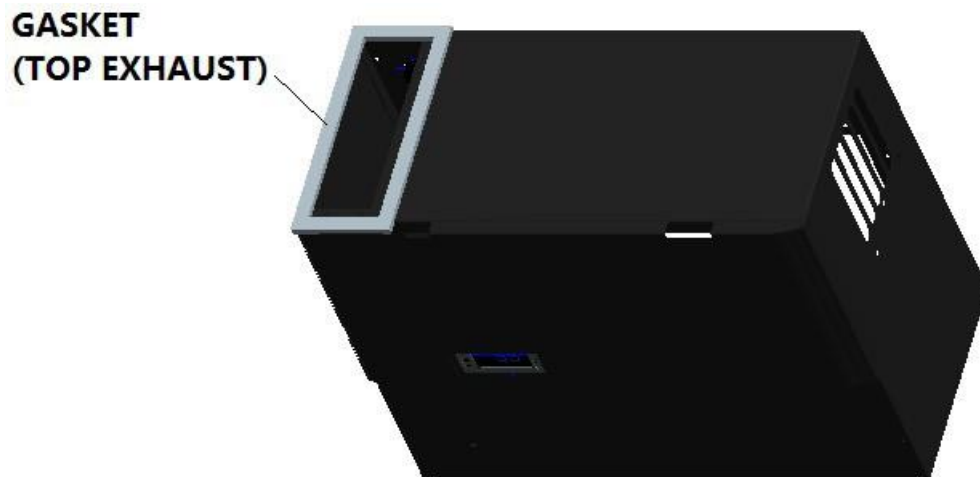

Fig. 2.5 TOP EXHAUST GASKETS
- If top exhaust installation, place another gaskets along the top exhaust at the top of the cooling unit (see Fig. 2.5).